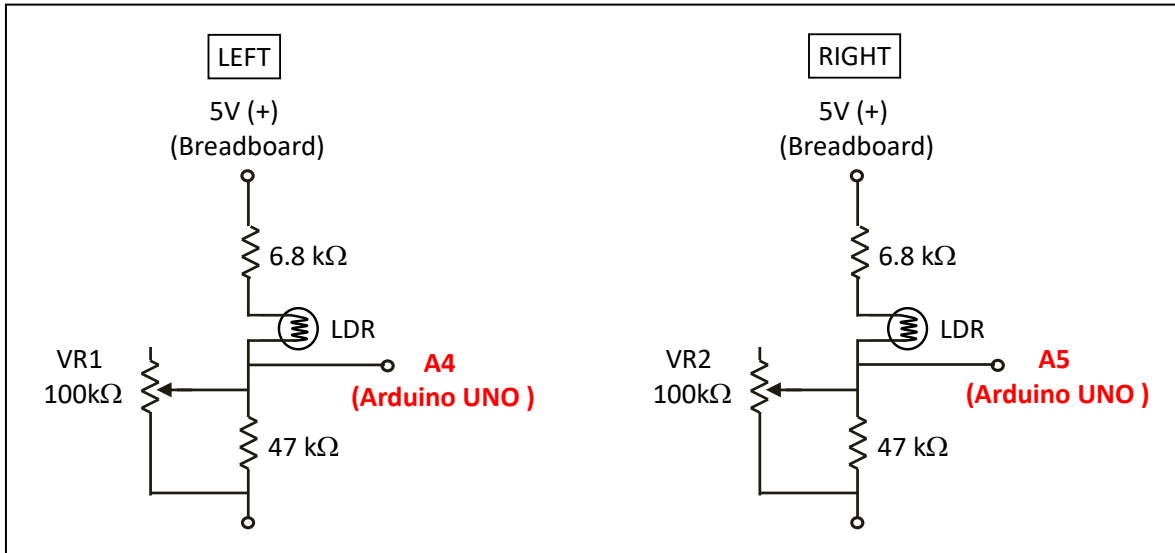
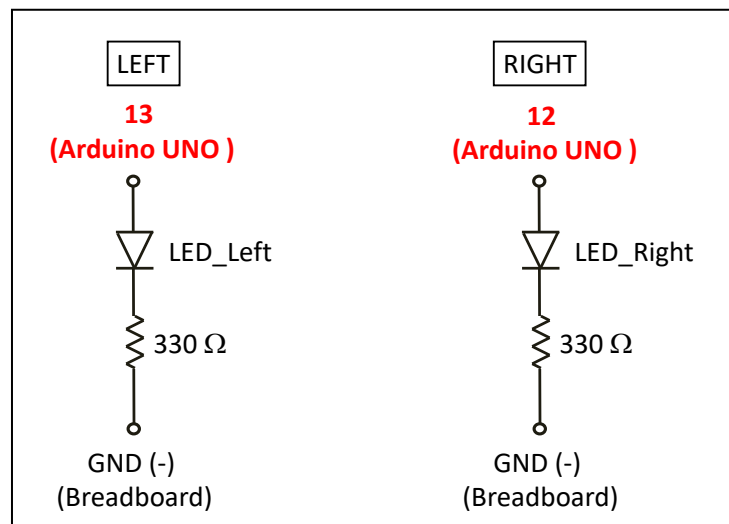
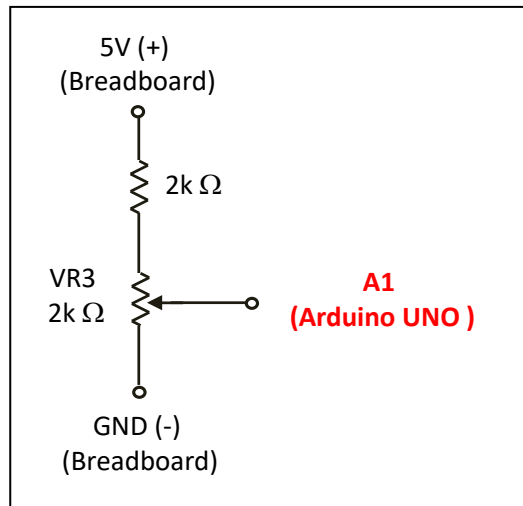

Fig. 36
Fig. 37
Fig. 38
5.6.9. Connect the LDR circuits to Arduino UNO board, as shown in Fig. 36. Connect the LED circuits to the Arduino UNO board, as shown in Fig. 37. Connect the threshold circuit to Arduino UNO board as shown in Fig. 38. You could refer to the video (video16-LDR_LED_Threshold.mp4) for demonstration.